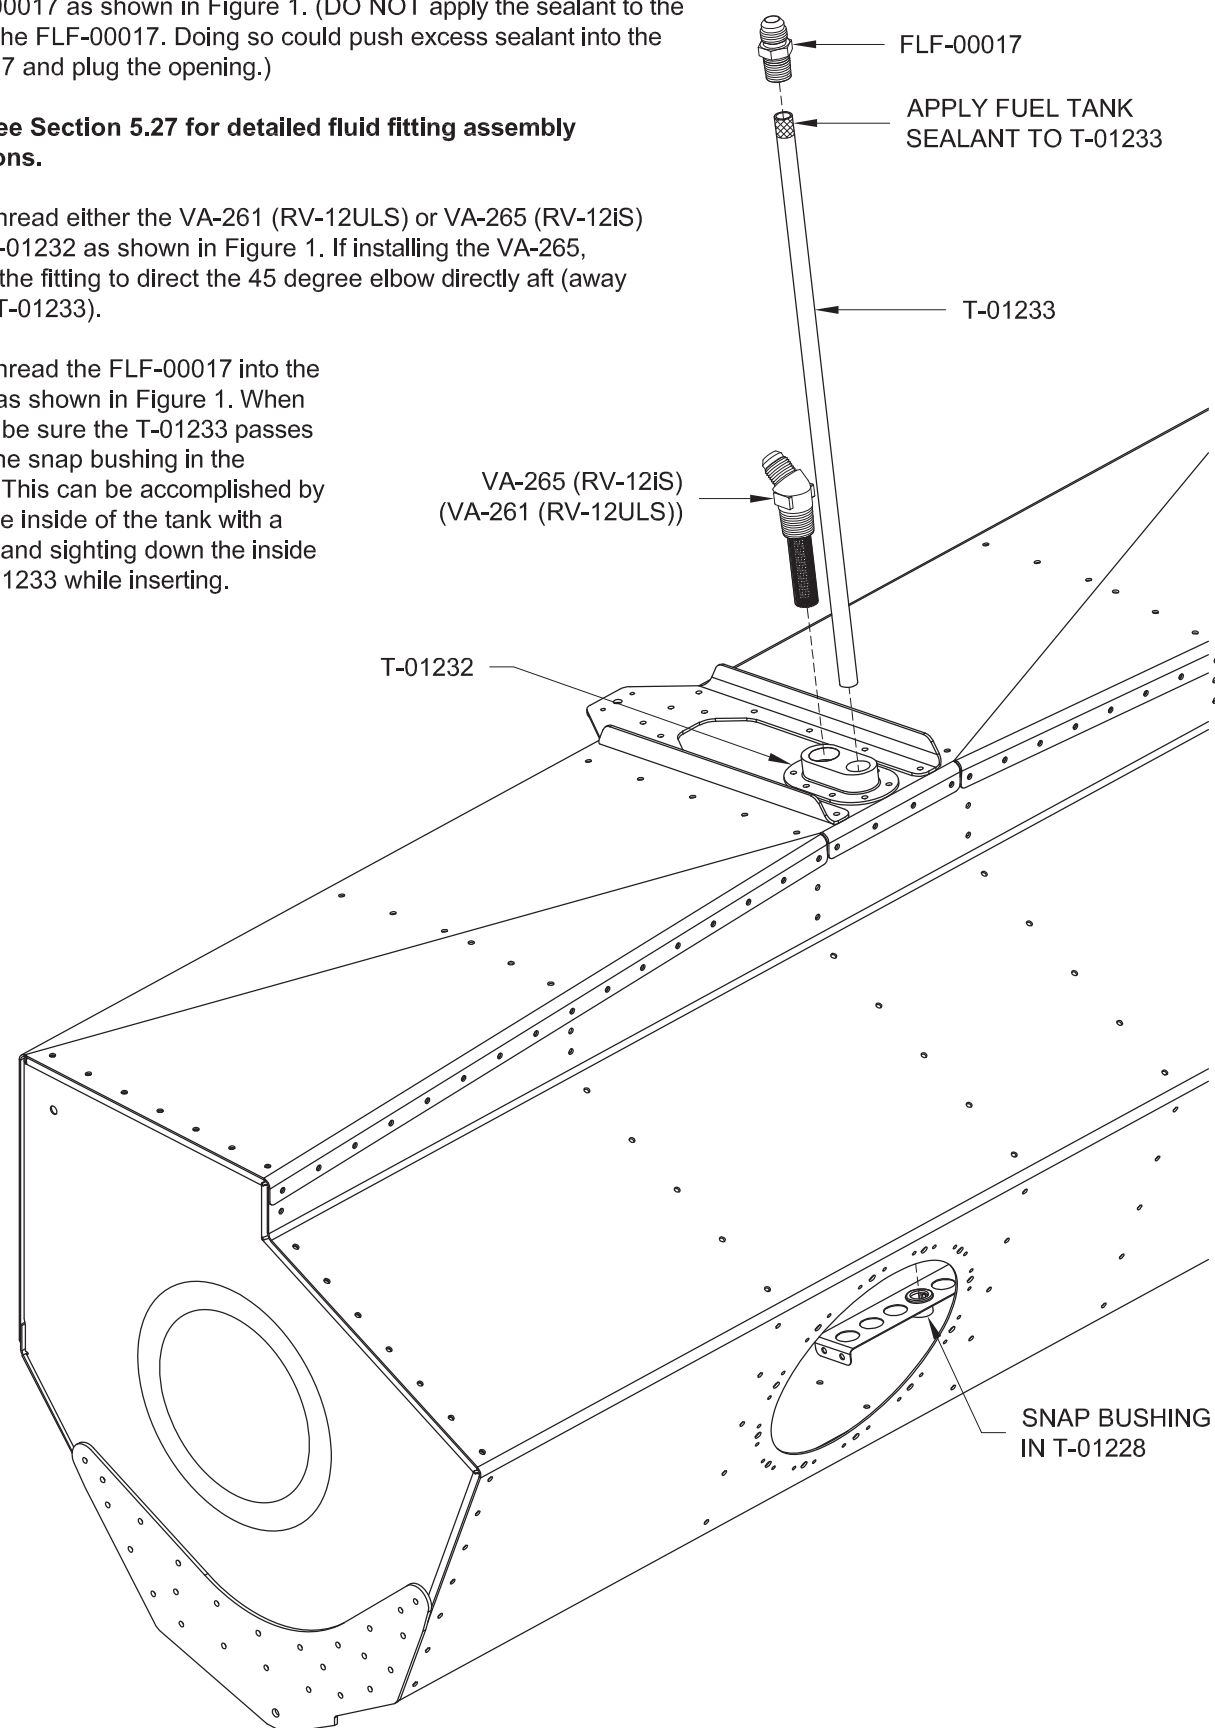

FIGURE 1: SUPPLY/RETURN FITTING INSTALLATION
Step 2: Apply sealant around the outside of the T-01233 and insert it into the FLF-00017 as shown in Figure 1. (DO NOT apply the sealant to the inside of the FLF-00017. Doing so could push excess sealant into the FLF-00017 and plug the opening.)
Step 3: Thread either the VA-261 (RV-12ULS) or VA-265 (RV-12iS) into the T-01232 as shown in Figure 1. If installing the VA-265, thread in the fitting to direct the 45 degree elbow directly aft (away from the T-01233).
Step 4: Thread the FLF-00017 into the T-01232 as shown in Figure 1. When inserting, be sure the T-01233 passes through the snap bushing in the T-01228. This can be accomplished by lighting the inside of the tank with a flashlight and sighting down the inside of the T-01233 while inserting.